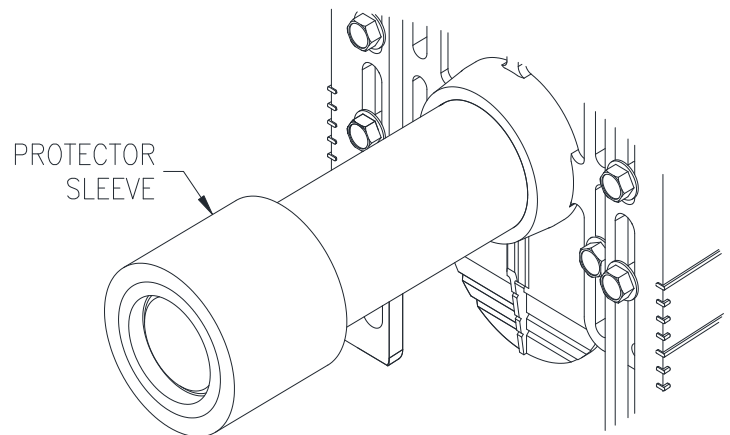

Fig. 10b
EZ-Set™ Coupling (ZQ) - Thread the coupling into the faceplate by hand until the threads engage. Using a strap or pipe wrench, continue to turn the coupling into the faceplate to create a water-tight seal. Ensure the protective sleeve is flush with the test cap. See Fig. 10b